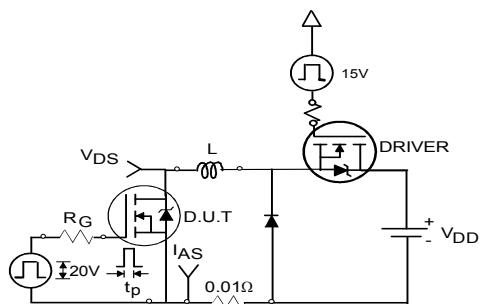

Fig 22a. Unclamped Inductive Test Circuit
3. Equation below based on circuit and waveforms shown in Fig 22a, 22b.